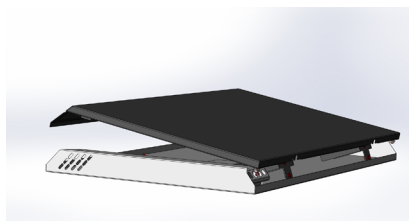

fig.4.3
Step3: Remove the backside head from the grooves by moving the frame downwards, then lift up and remove the cover completely. (fig.4.3)